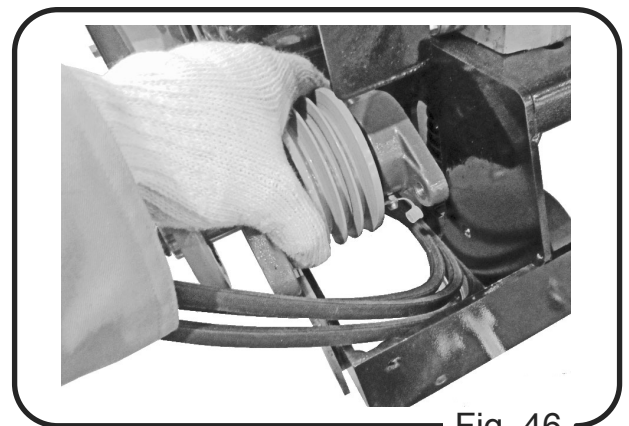

Fig. 46
7. With the pillow block mounted, remove the blade shaft from the machine. After taking out the old V belt, install the new V belt. (Fig. 46)